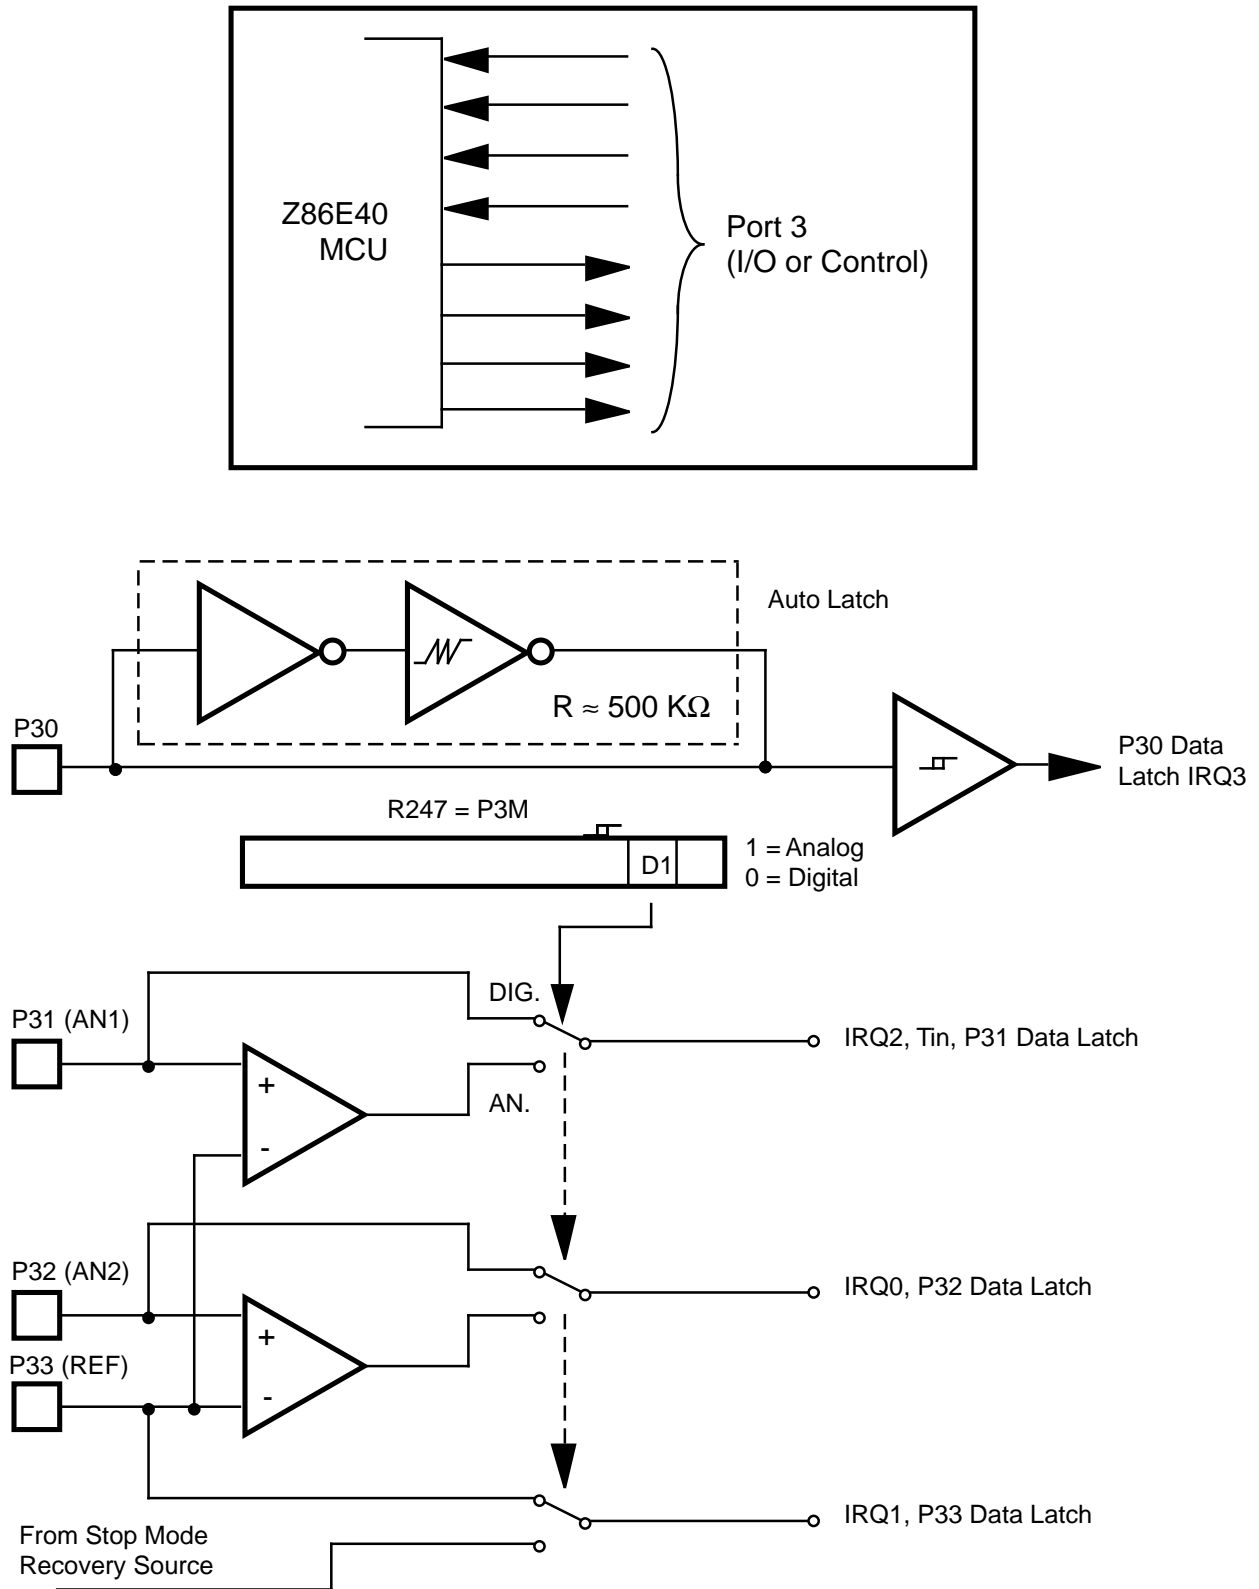

Figure 21. Port 3 Configuration
**Port 3** (P37-P30). Port 3 is an 8-bit, CMOS-compatible port with four fixed inputs (P33-P30) and four fixed outputs (P37-P34). These eight lines can be configured by software for interrupt and handshake control functions. Port 3, Pin 0 is Schmitt-triggered. P31, P32 and P33 are standard CMOS inputs with single trip point (no Auto Latches) and P34, P35, P36 and P37 are push-pull output lines. Low EMI output buffers can be globally programmed by the software. Two on-board comparators can process analog signals on P31 and P32 with reference to the voltage on P33. The analog function is enabled by setting the D1 of Port 3 Mode Register (P3M). The comparator output can be outputted from P34 and P37, respectively, by setting PCON register Bit D0 to 1 state. For the interrupt function, P30 and P33 are falling edge triggered interrupt inputs. P31 and P32 can be programmed as falling, rising or both edges triggered interrupt inputs (Figure 21). Access to Counter/Timer 1 is made through P31 ( $T_{IN}$ ) and P36 ( $T_{OUT}$ ). Handshake lines for Port 0, Port 1, and Port 2 are also available on Port 3 (Table 9).